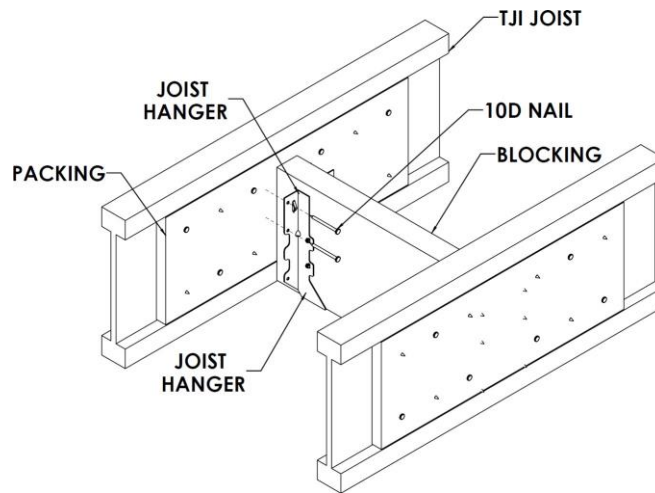

Figure 197: **Joist Hangers Attaching Blocking to Packed TJI Joists**
- Avoid using the bottom two holes of the joist hangers, where nails would be driven into the bottom flange of the TJI joist (Figure 197).